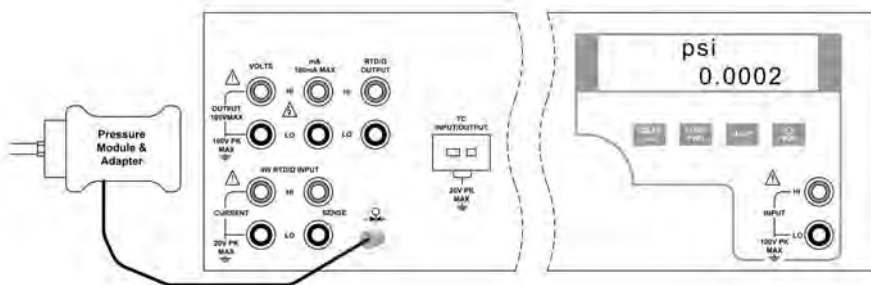

Figure 19 - Isolated Pressure Module Connection
- a) Connect the pressure module to the CL3001 as shown in figure 19.